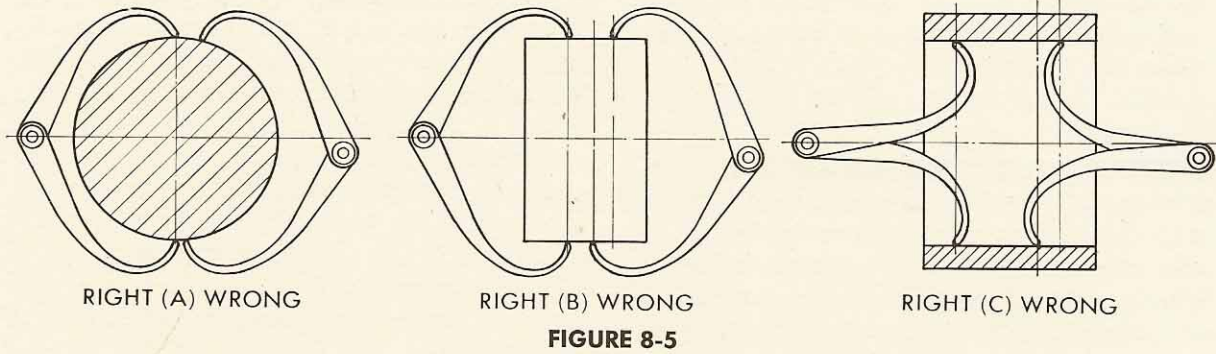

FIGURE 8-5
8. CALIPERS: On shipboard you will seldom have tolerance gauges available, but you can measure parts if you have suitable calipers. The kind that should be used for any measurement will depend upon the accuracy you want. Measurements that need not be accurate beyond the nearest hundredth of an inch may be made with plain calipers such as are shown in Figure 8-5. The points of the calipers are brought against the part to be measured and the calipers are then withdrawn and laid against a scale to determine the dimension. In using calipers be sure you have the points across the dimension you want. Figure 8-5 shows how you could get an incorrect measurement if you were not careful.
In (A) of Figure 8-5 the calipers have not been checked for greatest dimension by passing them over the shaft. In (B) and (C) they have